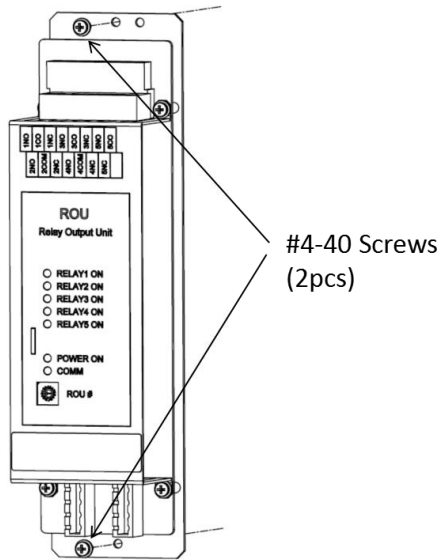
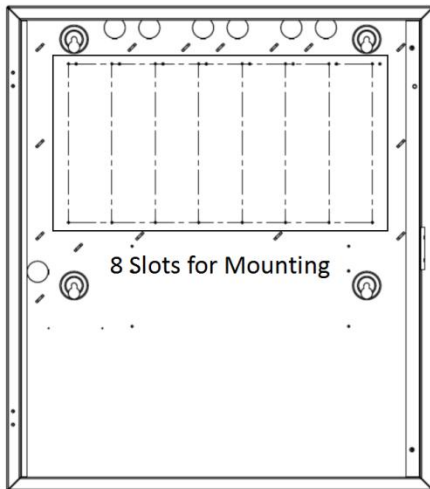

Figure 1. FW347 NOU Installation
Figure 2. FW106 FACP Mounting Positions
2. Mount the FW347 ROU onto the back box of the FW106 FACP using two #4-40 screws provided, see Figure 1. There are 8 identical slots for the installation in the back box. They are shared by the FW327 ALU, the FW337 NOU, the FW347 ROU, and the FW357 XNU, see Figure 2.